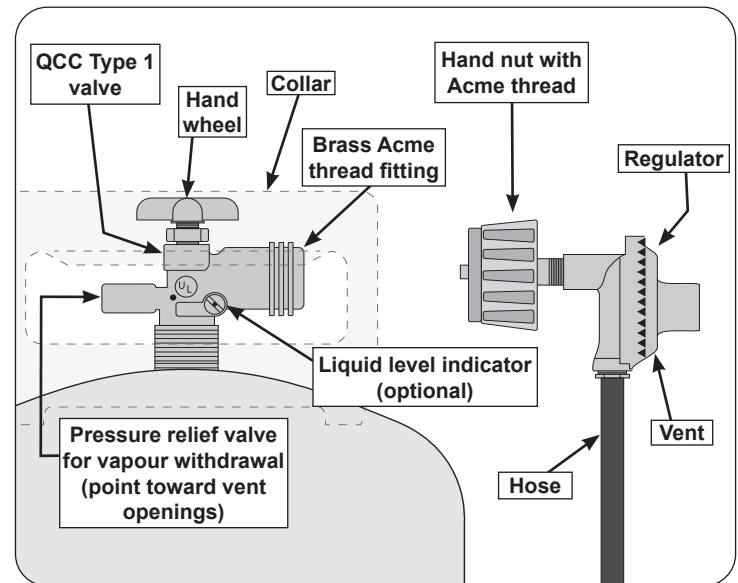

Fig. 7-1 Type I Acme thread coupler
- The cylinder used must include a collar to protect the cylinder valve. The cylinder supply system must be arranged for vapour withdrawal. See Fig. 7-1.
- When used with a cylinder, the gas supply system must be used with a pressure regulator. The pressure regulator and hose assembly (**not supplied**) used must match the specification for Type I by ANSI Z 21.58/CGA 1.6 and must comply with UL 144 as a part of the self-contained LP gas supply system (see Fig. 7-1).
**To disconnect:** Turn the hand nut counterclockwise until detached (Fig. 7-1).